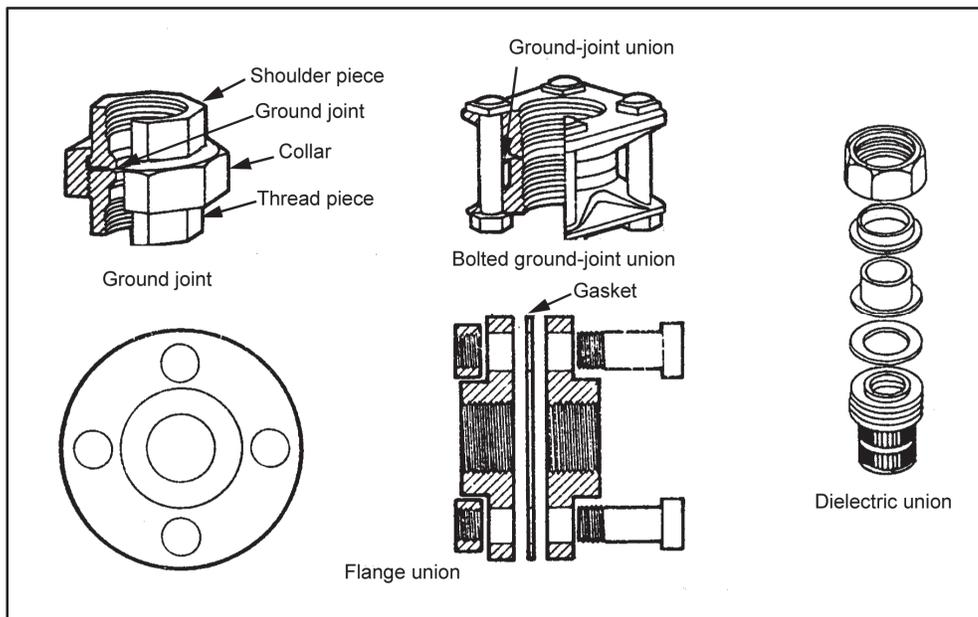

Figure 6-24. Unions
6-52. Unions (figure 6-24, page 6-20) are used to join the ends of two pipes that can be turned or disconnected.
- **Flange.** The flange union has two parts, each with a female thread, that are screwed to the pipes to be joined. Nuts and bolts pull the flanges together. A gasket between the flanges makes a gastight and watertight joint. Plain-faced flanges are shown in figure 6-24. They may have male and female faces or tongue and groove faces.